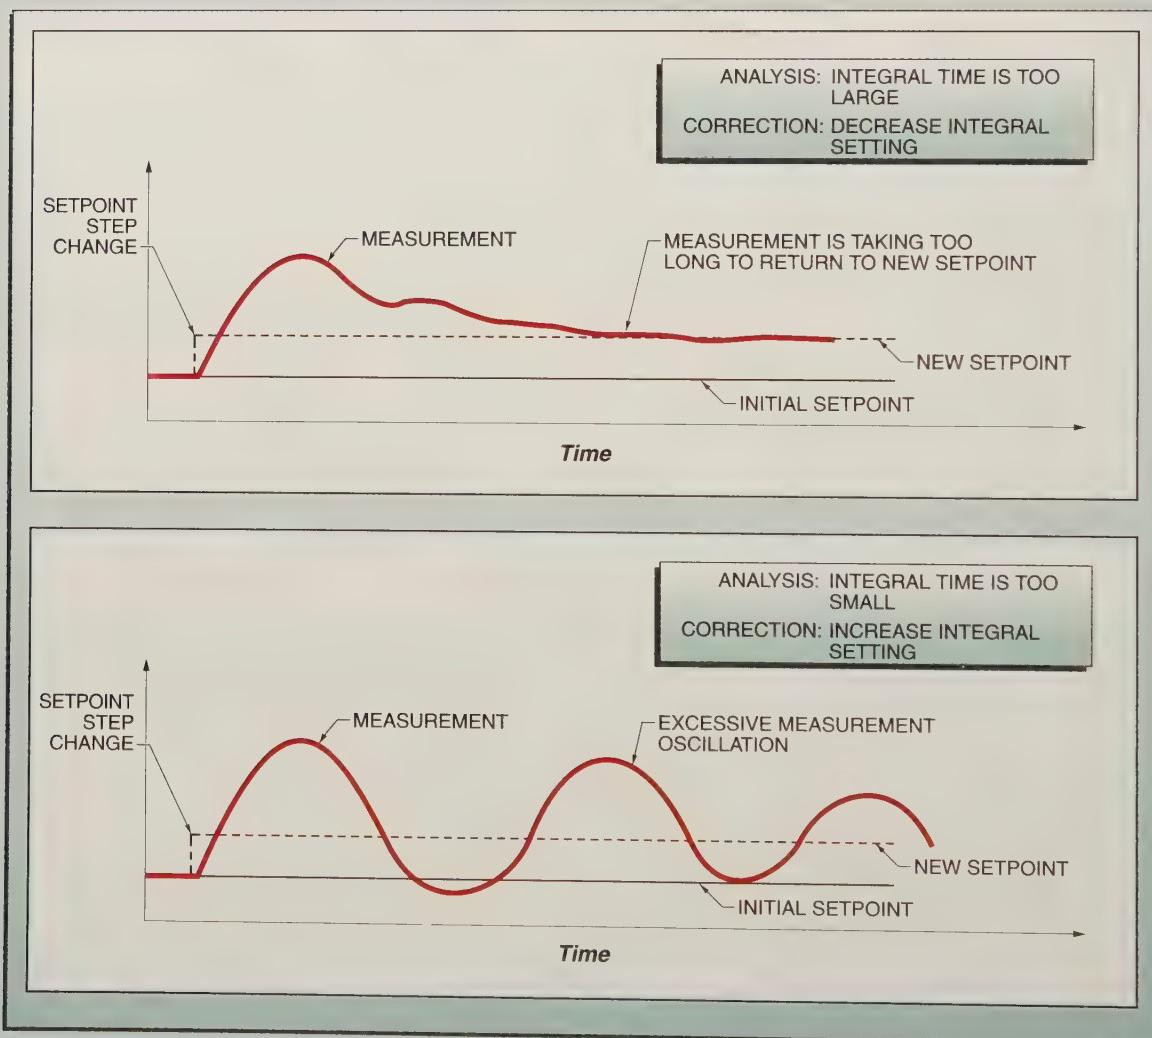

Figure 37-6. Closed loop controller responses for an integral control action can be used to make tuning changes.
4. At this point, the integral time can be adjusted. Make a small change in the controller setpoint and watch the control system response. Compare the control system response to the curves shown and make the integral time tuning adjustments shown next to the curve. See Figure 37-6.